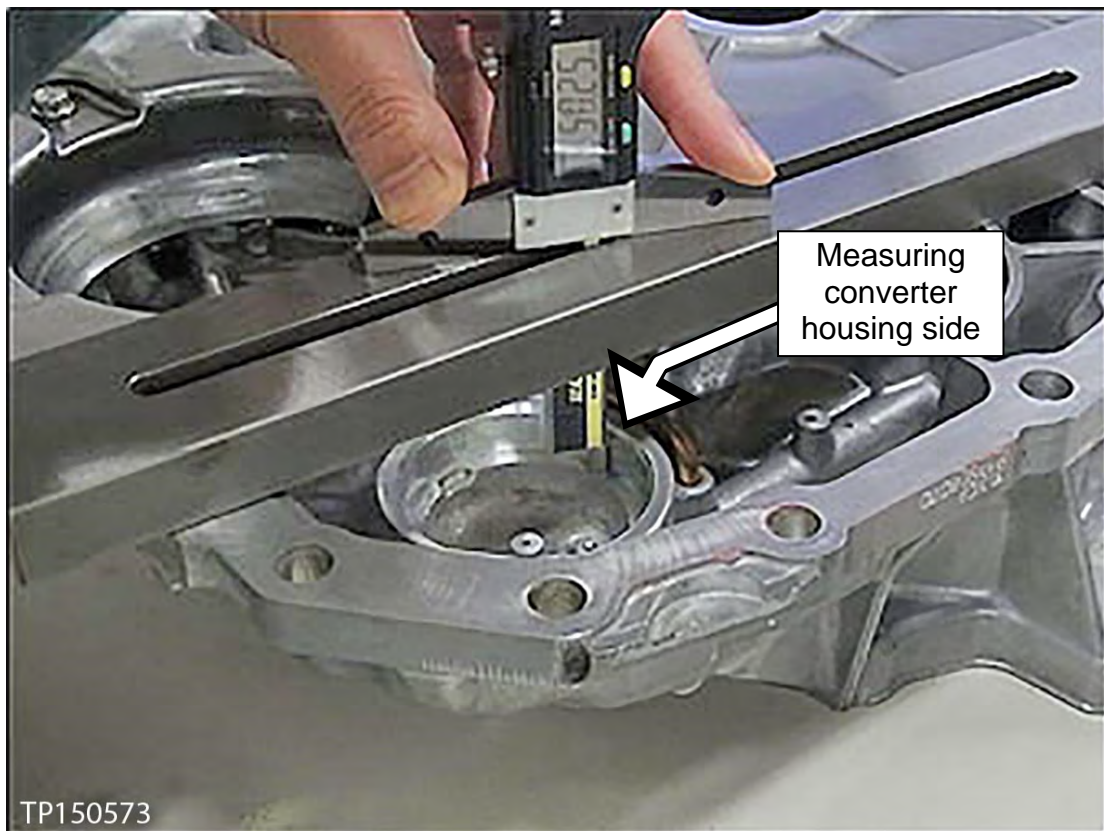

Figure 21
10. Perform step 2-9 on the converter housing's outer race bore (see Figure 21).